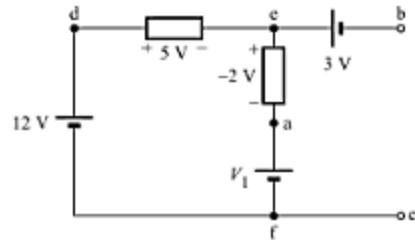

Fig. 3.63
4. For the circuit shown in Fig. 3.63, Find V_1 , V_{ad} , V_{bc} and $V_{ac} + V_{ce}$ [Ans. 9 V, -3 V, 4 V, 2 V]